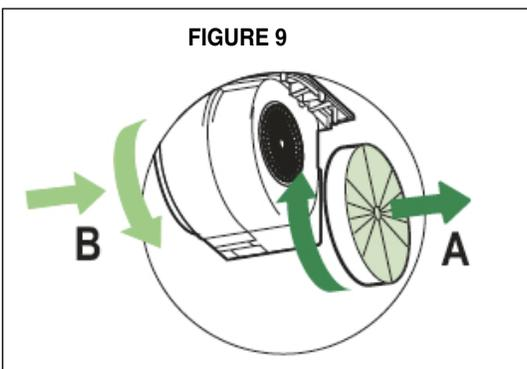

FIGURE 9
3. Attach one charcoal filter to each end of the blower. Each charcoal filter attaches to the grid on the side of the blower. Rotate the filter clockwise to install and counterclockwise to remove (as indicated in **FIGURE 9**).
The charcoal filters should be replaced (as indicated in **FIGURE 9 on page 8**) when the "C" symbol appears on the LED screen or at least every 4 - 6 months depending on heavy usage. To replace the charcoal filter, open the ducting panel, remove the metal grease filters and remove the old charcoal filters and replace with the new ones. Then replace the metal grease filters. Press and hold the "G" button for 3 seconds to reset the filter alarm.